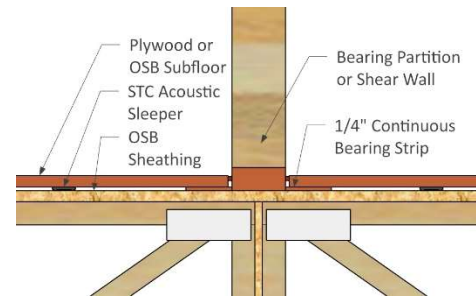

Figure 2: OPTION Load-Bearing on Sheathing
3. OPTION: Load-bearing partitions may be installed directly on the sheathing (Fig. 2). To minimize cutting, install pads and subfloor panel prior to non-bearing partitions. Pads or strips may be used at perimeter.